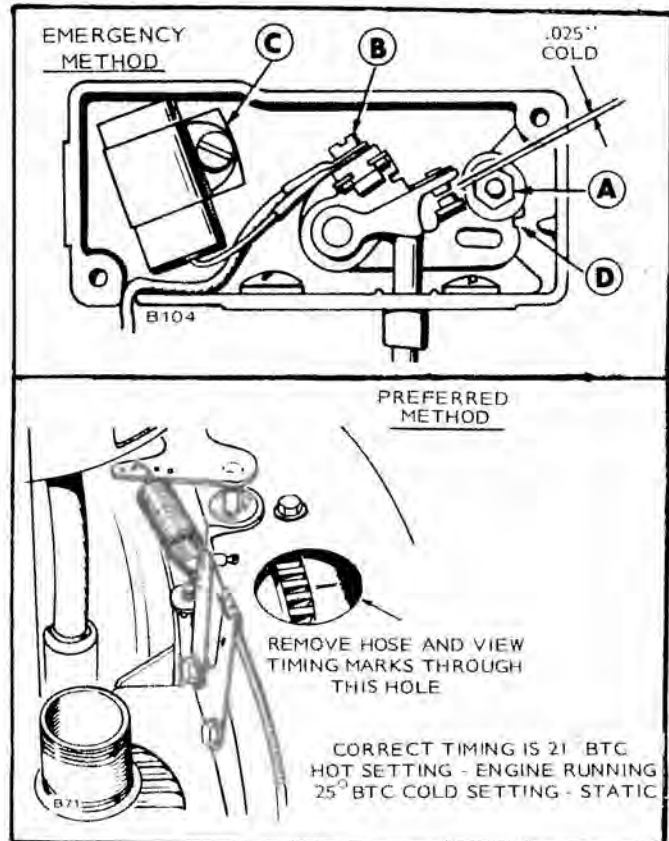

FIGURE 11. IGNITION AND TIMING ADJUSTMENT
3. Refer to Figure 11. Remove mounting nut (A) and pull the points out of the box just far enough so screw (B) can be removed and leads disconnected.
4. Remove screw (C) and replace condenser with a new one.
5. Replace points with a new set but do not completely tighten mounting nut (A).
8. Using a screwdriver inserted in notch (D) on the right side of points, turn points until gap measures .025" with a flat thickness gauge. (Be sure feeler is clean.) Tighten mounting nut and recheck gap.